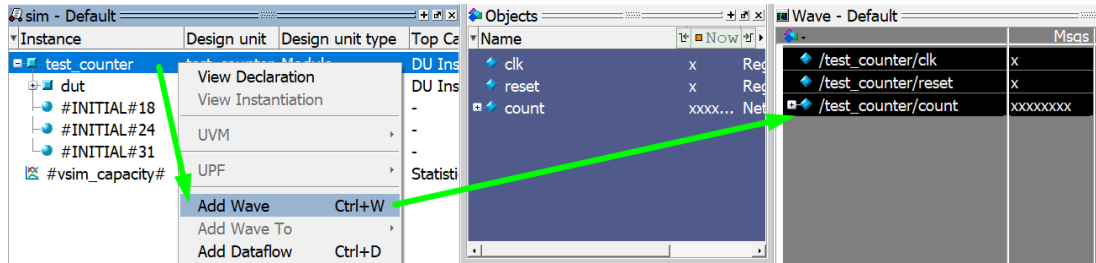

Figure 13
- b. Select **Add Wave** (Figure 13).